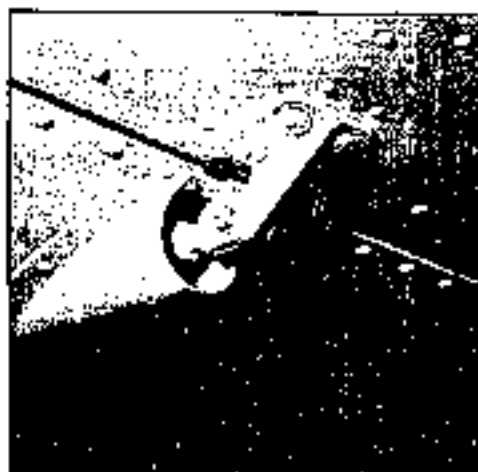

Fig. 5-47 Remove bolt from bracket on bottom surface of tab
- (1) Remove rod assembly connecting bolt from bracket on bottom surface of tab. (See Fig. 5-47)